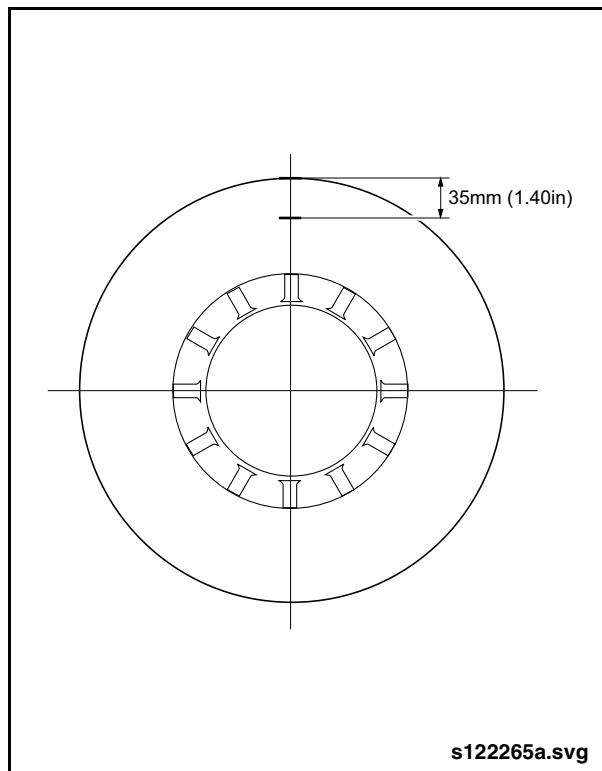

Fig. 2-113: Rotor Run-Out Measurement Point
- a. Mount dial indicator (Items 29 & 69 from special tools list) so that tip of indicator is perpendicular to brake disc surface at 1.40" (35 mm) down from the outer rim of the rotor. See "Fig. 2-113: Rotor Run-Out Measurement Point" on page 103.